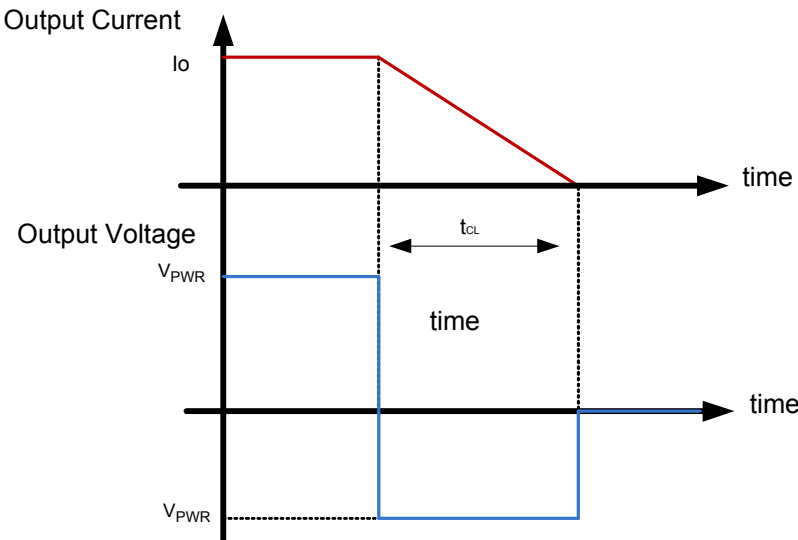

Figure 21. Simplified Negative Output Clamp Waveform
In case of an inductive load (L), the energy is dissipated after the turn-off inside the N-channel MOSFET. When $t_{CL} (= I_o \times L / V_{CL}) > 1.0$ ms, the turn-off waveform can be simplified with a rectangle as shown in Figure 21.